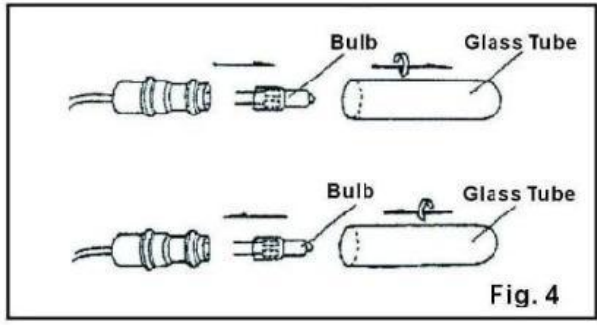

Fig. 4
3. The bulb may now be pulled from its socket and replaced with a new bulb (See fig. 4).